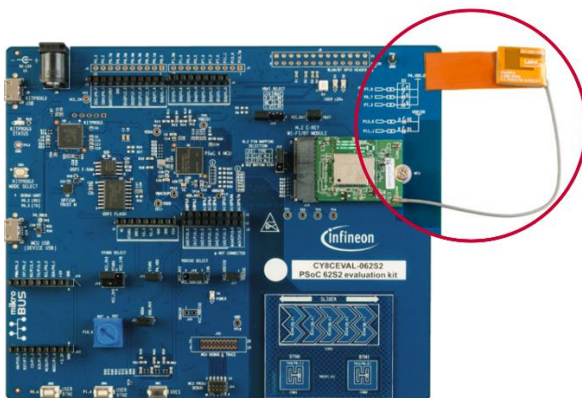

Figure 1: Attach FlexPIFA to antenna connector on Sterling LWB5+
1. Attach the included FlexPIFA antenna to the antenna connector on the Sterling LWB5+ on board the CY8CEVAL-062S2 as shown in Figure 1.